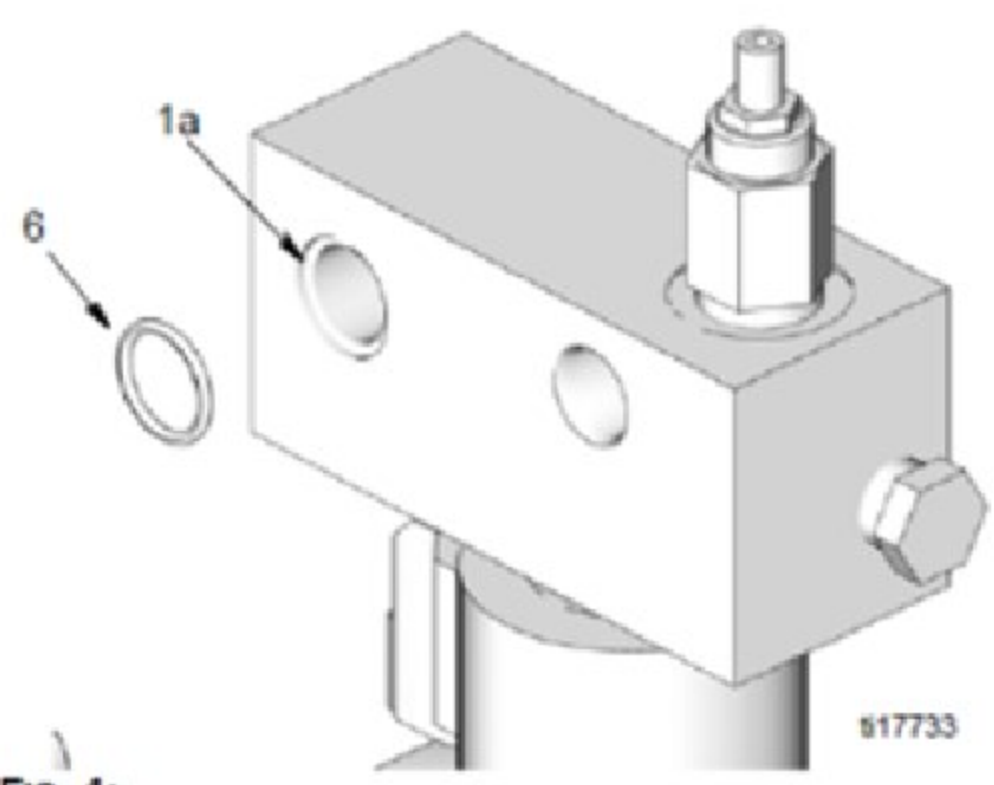

FIG. 4:
5. Grease o-ring (6) and install in block opening (1a) as shown in FIG. 4.